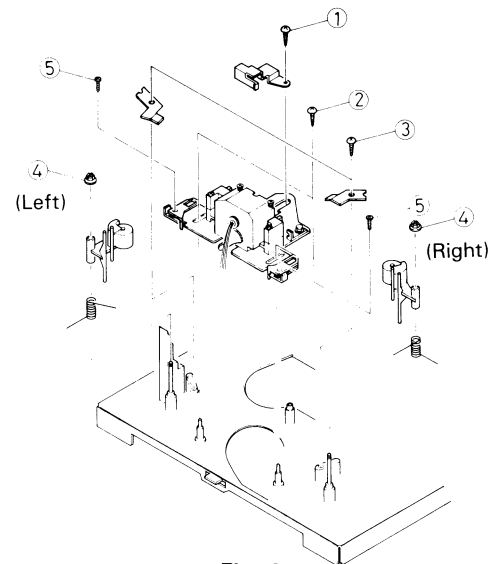

Fig. 9
1. Pinch roller (left) (Fig. 9).
2. Pinch roller (right) (Fig. 9)
- 1) Unscrew adjusting screw ④: VKS4513-001 securing the pinch roller arm Ass'y.
3. Replacing the head Ass'y (Fig. 9)
1. Perform procedures 1 through 3 above. (Fig. 9)